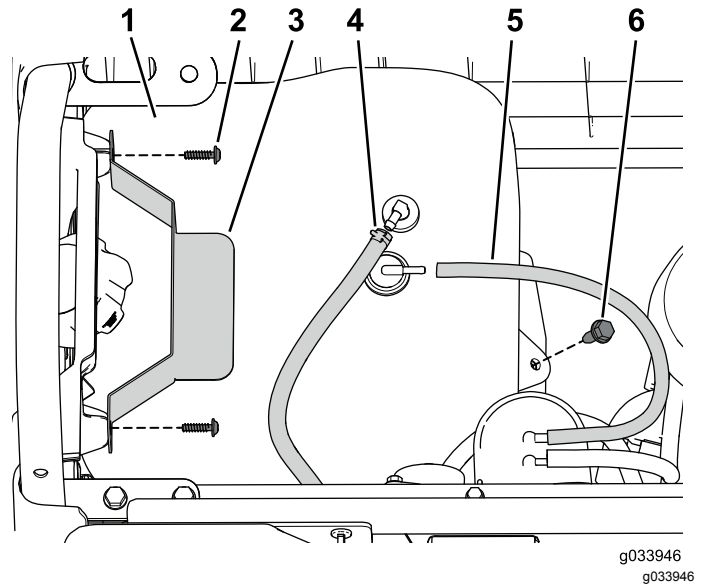

Figure 4
1. Remove the flange-head bolt securing the fuel tank to the tank tray (Figure 4).
2. Remove the screws securing the hold-down (Figure 4).
3. Disconnect the vent tube and fuel line from the tank (Figure 4).
7. Connect the fuel line and vent tube to the fuel tank (Figure 4).
8. Secure the hold-down using the previously removed screws (Figure 4).
9. Secure the fuel tank to the tank tray using the previously removed flange-head bolt (Figure 4).